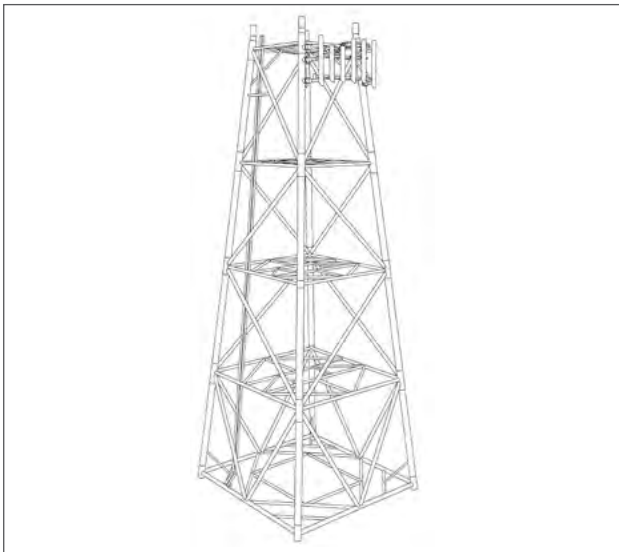

Figure 3: Typical small wellhead jacket in Southeast Asia.
- The steel tonnage required for the bridges and the intermediate bridge support jackets could be over 200,000 t. Where do we find the steel at a low cost? There are more than 1,000 small wellhead platforms waiting to be decommissioned in Southeast Asia alone. Some of the decommissioned materials can be re-used. A typical wellhead jacket (Figure 3) is usually in a water depth between 100 ft to 350 ft, and weighs from 1,000 t to 4,000 t. In offshore Thailand, you can find over 500 old platforms waiting to be decommissioned, yielding a minimum total jacket tonnage of 500,000 t, and some of which can be used for bridge construction.